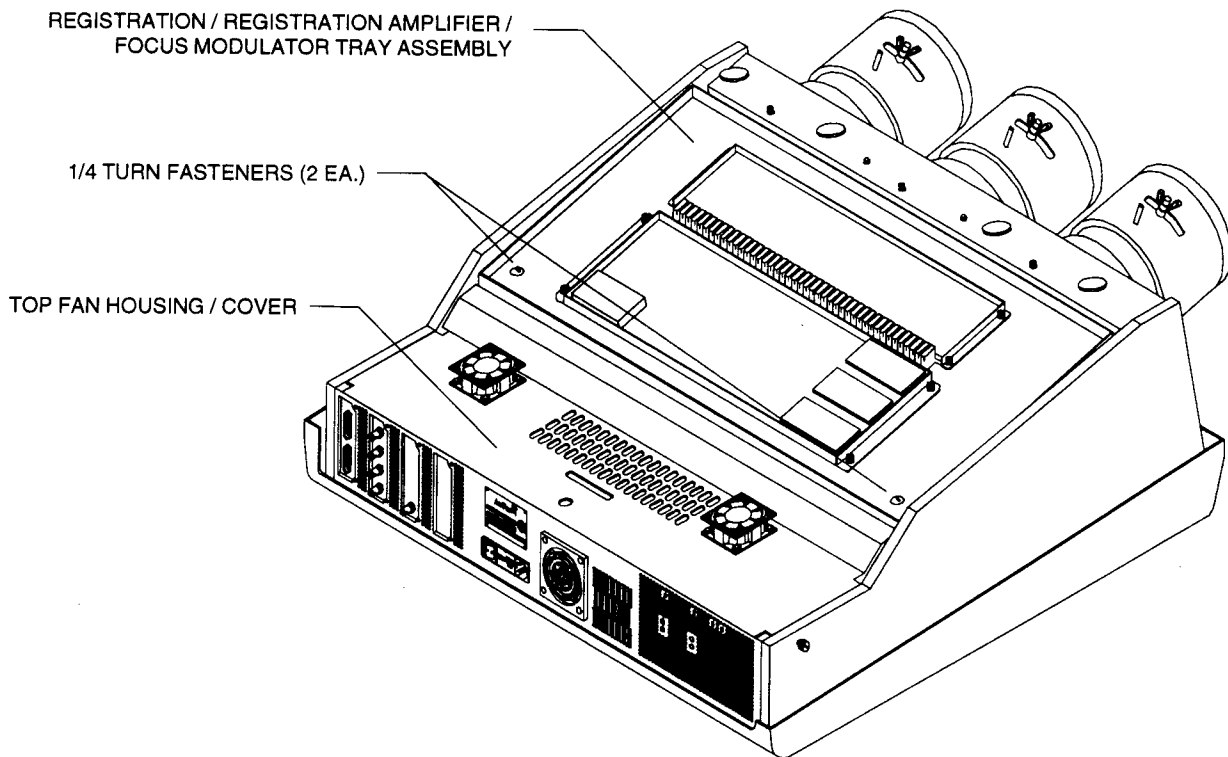

FIGURE 4-3. ACCESSING THE YOKE INTERFACE BOARD.
- STEP 2. Unlock and tilt up the registration tray assembly and the registration amplifier / focus modulator tray assembly. See Figure 4-3.